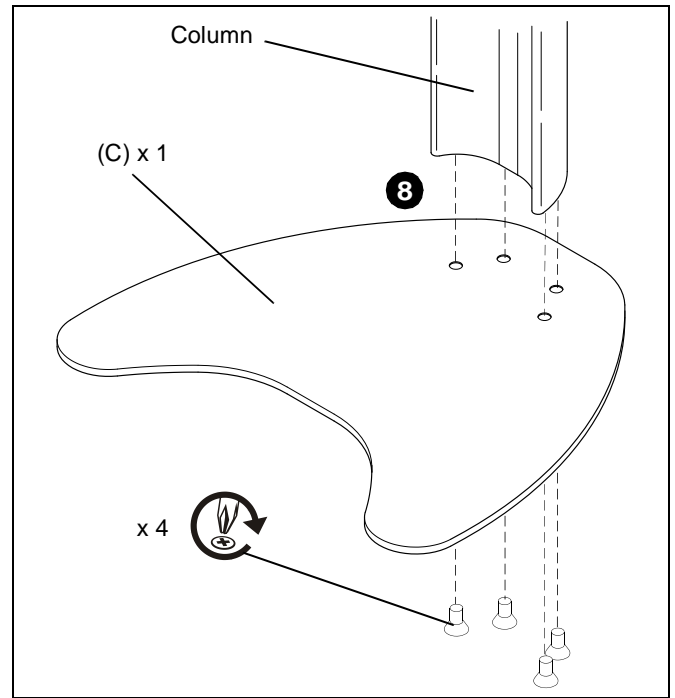

Figure 7
- With rubber bumpers facing down, secure base C) to column using four Phillips flat head screws removed during step 5. (See Figure 7)